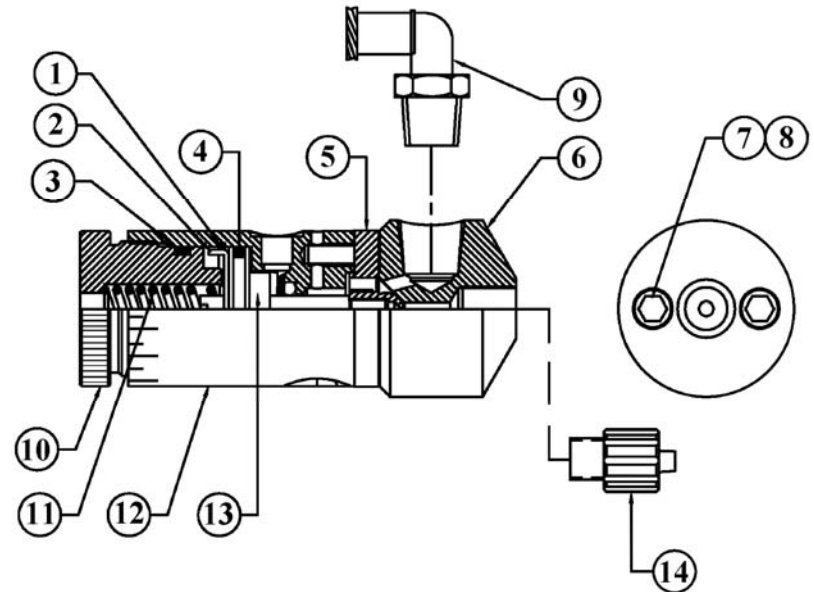

Figure 6.0
8.1 Cleaning (Refer to figure 6.0)
8.2 To Change the Diaphragm (Refer to figure 6.0)
8.3 7. To Change or Lubricate Piston O-ring (Refer to figure 6.0)